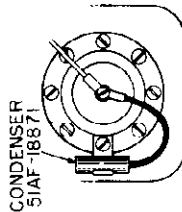

Figure 5
5. Remove the Fuel Tank Gauge cover plate located in the luggage compartment floor. Mount and connect Condenser 51AF-18871 as shown in figure 5. Fasten cover plate and apply sealing compound to insure a good seal for the cover.